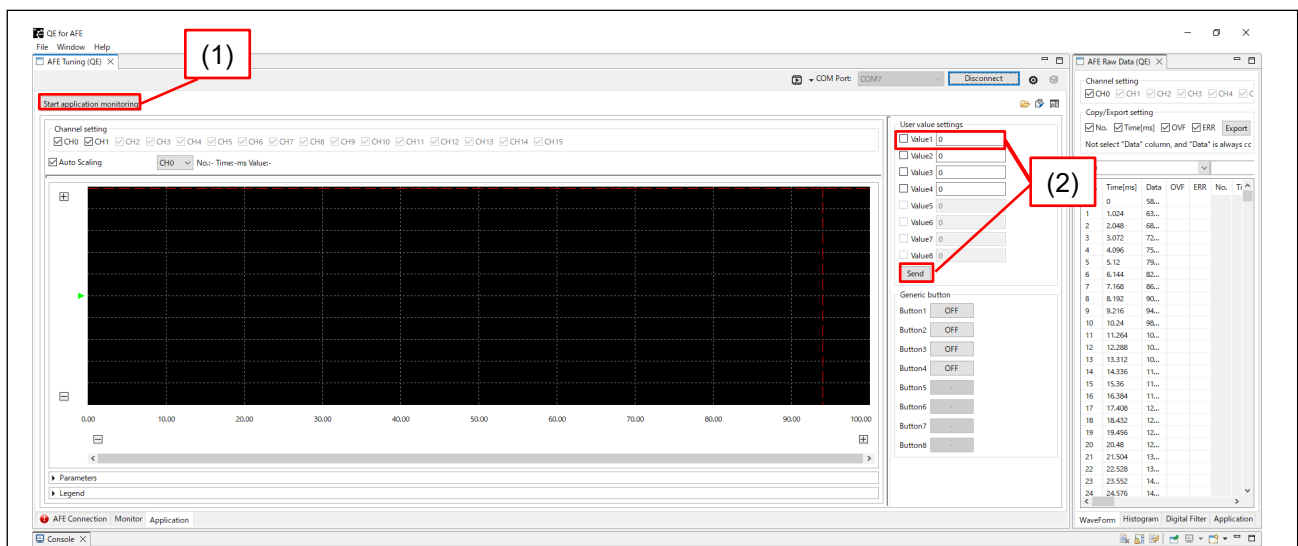

Figure 4-3 QE for AFE Window (Application Tab)
- (1) Select the COM port to connect to the board.
- (2) Set the bit rate to 4,000,000.
- (3) Press the “Connect” button.
On the Application tab shown in Figure 4-3, press (1) “Start Application monitoring” to acquire the measurement result. The measurement result is displayed with CH0.
To adjust the weight conversion coefficient to the load cell to be used, perform calibration. Follow the calibration procedure below on the Application tab as shown in Figure 4-3. For details, refer to Table 1-1 and “6.3 Calibration” in the Application Note.
- 2) For Value 1 of (2) User value setting in Figure 4-3,
For Value 2 of (2) User value setting in figure 4-3,
On the Application tab shown in Figure 4-3, press “Start Application monitoring” to acquire the measurement result. The measurement result is displayed with CH0.